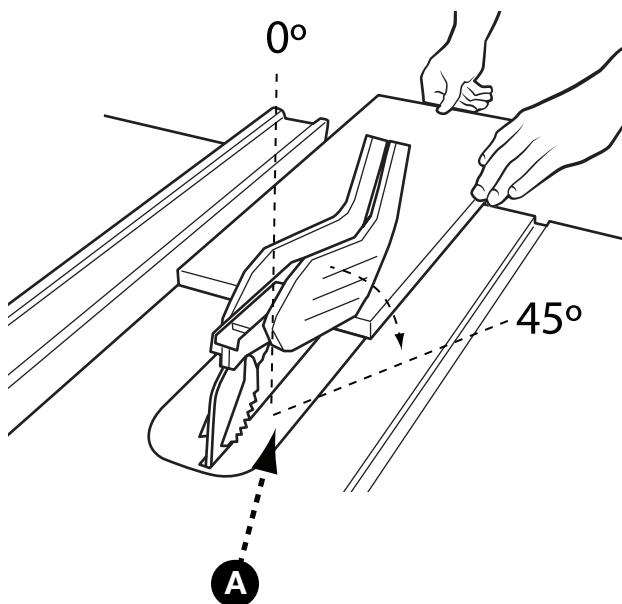

FIGURE 21
Bevel ripping is the same as ripping except the bevel angle (A) is set to an angle other than 0°. When making a bevel rip cut, place the fence on the right side of the blade so that the blade is tilted away from the fence and hands.(Fig. 21).